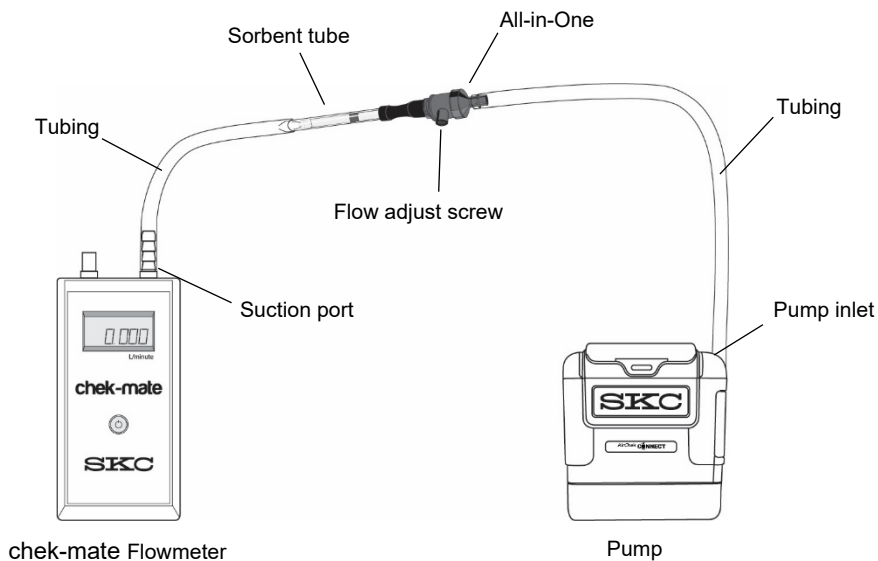

Figure 4. Flow Rate Verification Train (5 to 500 ml/min) for Single Tube — Constant Flow Mode
1. On the tube holder, insert an opened representative sorbent tube (arrow on tube pointing toward the pump) into the rubber sleeve on the port. See *Figure 4*.
Connect the flowmeter to the single sorbent tube or the first of multiple sorbent tubes as shown in Figures 4 and 5, respectively.